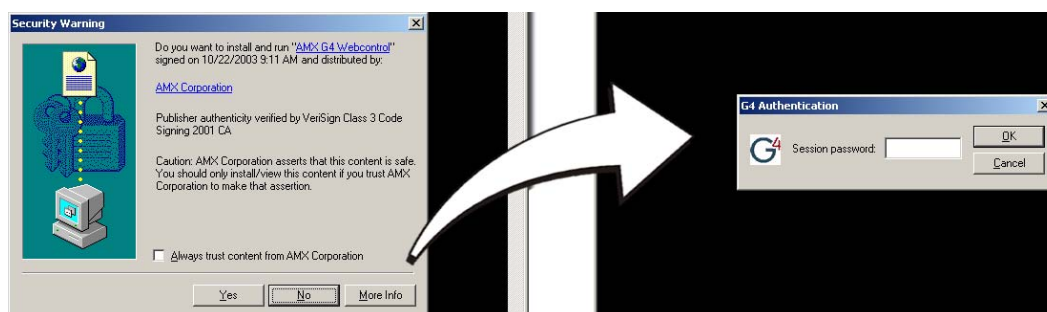

FIG. 86 Web Control VNC installation and G4 Authentication Session Password entry
6. Click **Yes** in the *Security Alert* popup to agree to the installation of the G4 WebControl application on your computer (FIG. 86).
10. Enter the Web Control session password into the Session password field (FIG. 86).